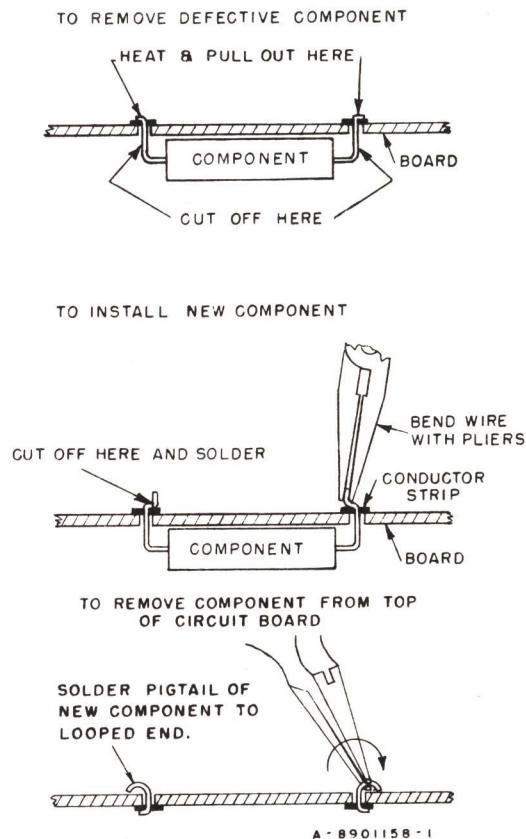

Figure 22—Replacement of Components in Printed Circuits
- b. Using long nose pliers, form a loop of the lead ends as shown in figure 22.
- c. To remove the defective component, snip the leads off at the component side of the board. See figure 22.
- g. Crimp the wire tightly against the board (see figure 22), and cut off the excess component lead. Leave about 1/16 inch of wire protruding from the edge of the hole.